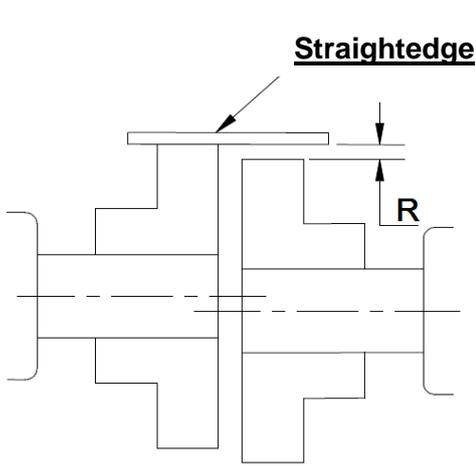

Figure 7.2: Measurement with a feeler gauge
Take a straightedge and place it onto the hub (item 1) as displayed in figure 7.2. With couplings REK...DQO, turn the other hub (item 2) until distance  $R = 0$  is achieved. Taking this point as a basis, measure at an approx.  $90^\circ$  offset with a feeler gauge distance "R". To be sure, distance R can be measured again at another approx.  $180^\circ$ . It can also be carried out in a similar manner with a depth gauge. The largest measured distance indicates the given radial misalignment.